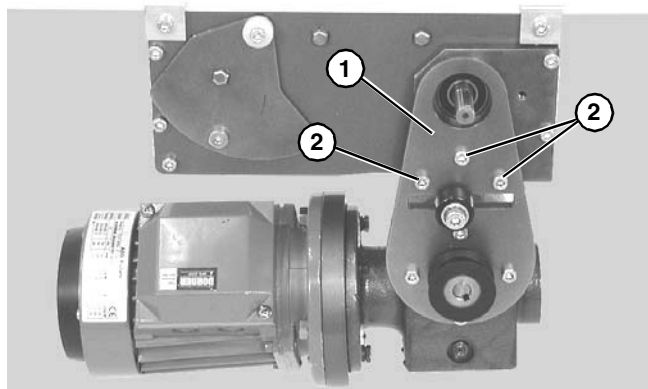

Figure 8
- Attach mount assembly (**Figure 8, item 1**) with mounting screws (**Figure 8, item 2**). Install long screws on bottom. Tighten screws to 80 in-lb (9 Nm.).